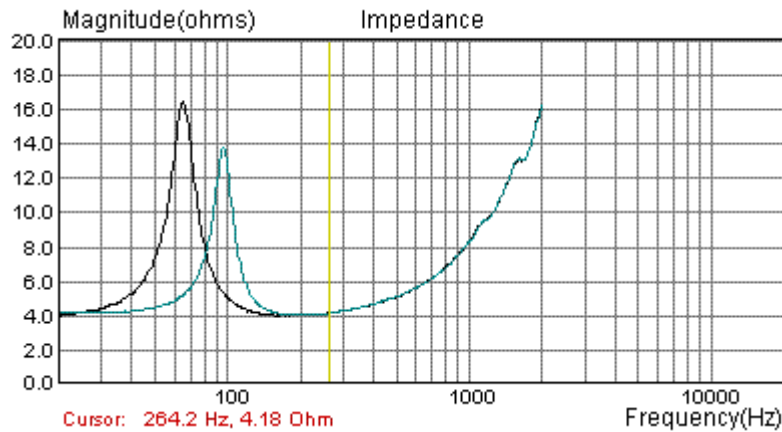

Figure 5.5 Impedance curve (the one with higher resonance frequency is obtained by mounting the loudspeaker in a closed box)
3. one of curves (1 or 2) must be set as an overlay graph (as in Fig. 5.5),